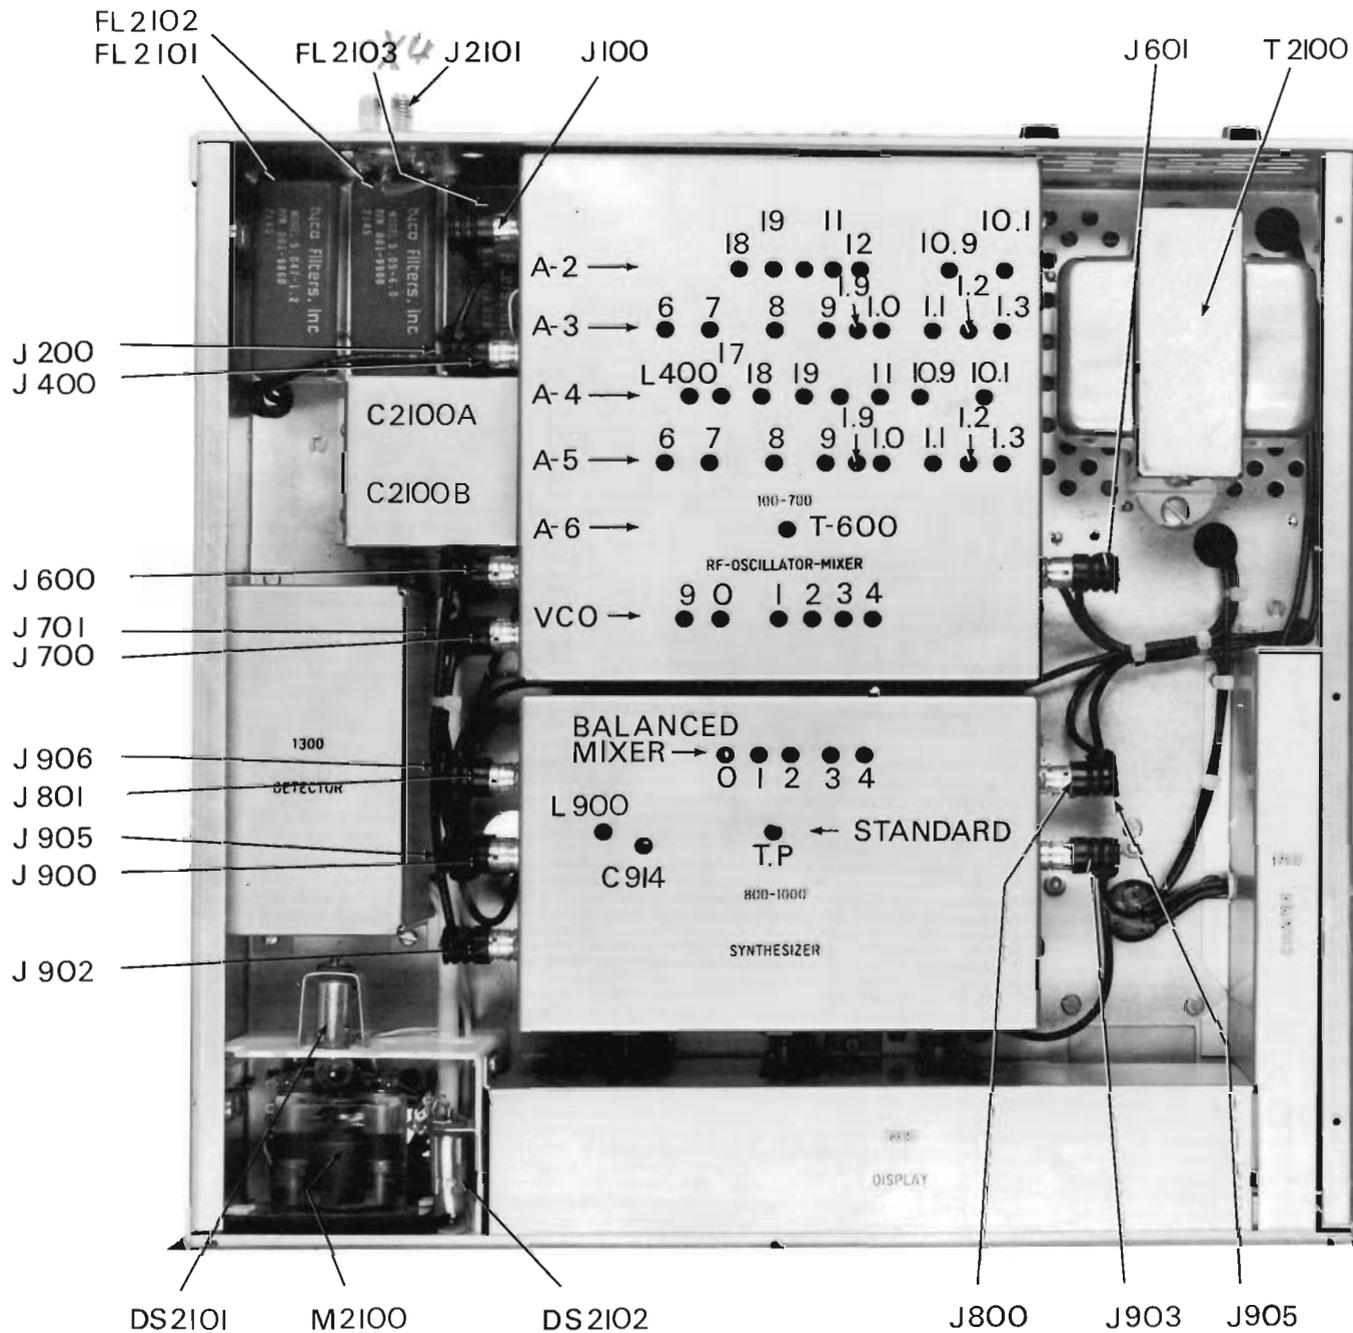

Figure 5-3. Alignment Locations, Top View
- b. Refer to figures 5-3 and 5-4. Attach the DC probe of a VTVM to the control line (J902) from the Programmable Divider card in the Synthesizer.